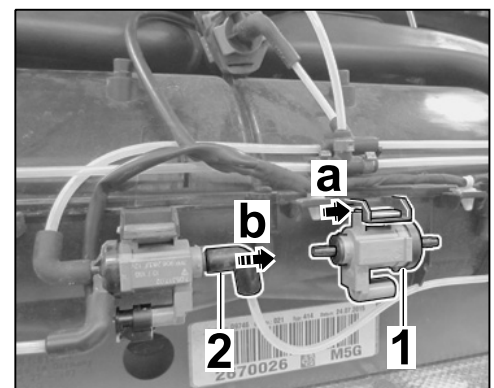

Figure 51
10.3.1 Install vacuum valve ⇒ *Figure 51 -1-* into the holder ⇒ *Figure 51 -a-*.
Pull off moulded hose ⇒ *Figure 51 -2-* (⇒ *Figure 51 -b-*).